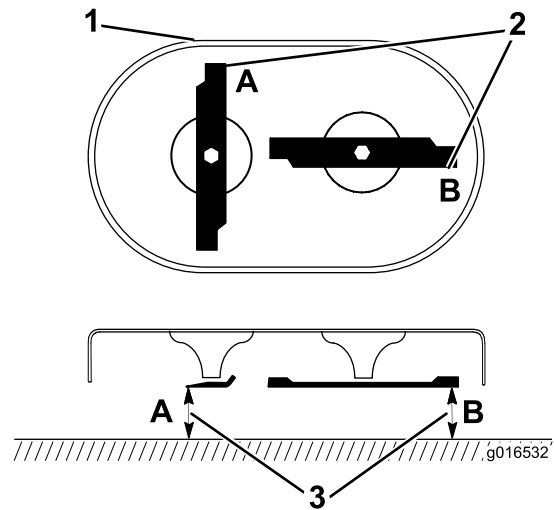

Figure 35
- Rotate the blades until they are positioned as shown in Figure 35.
- Measure from a level surface to the cutting edges at locations **A** and **B**, (Figure 35), and record both dimensions.